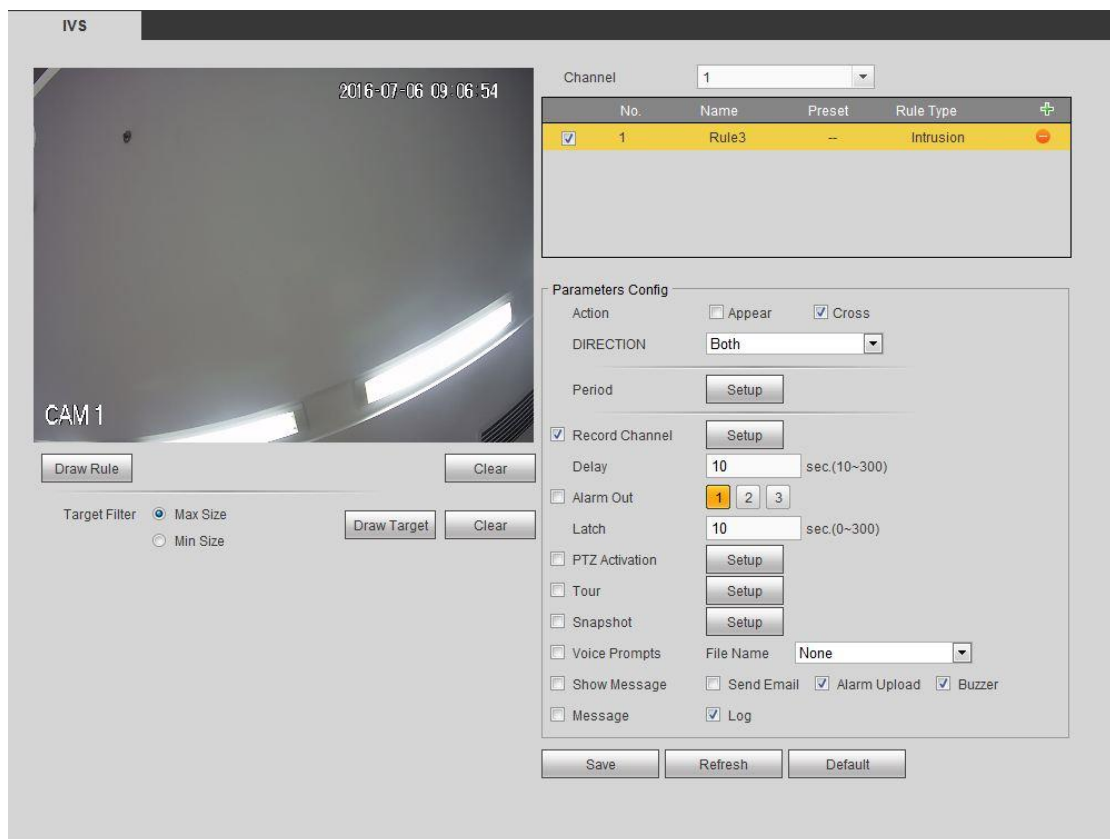

Figure 5-86
Step 2 Check the box to enable Intrusion function. See Figure 5-86.